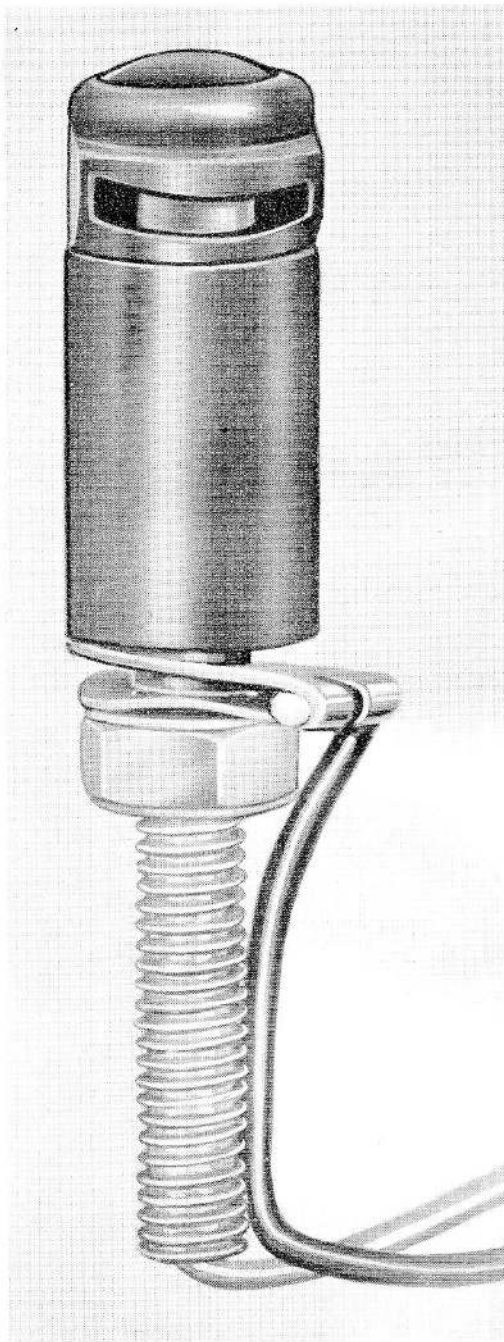
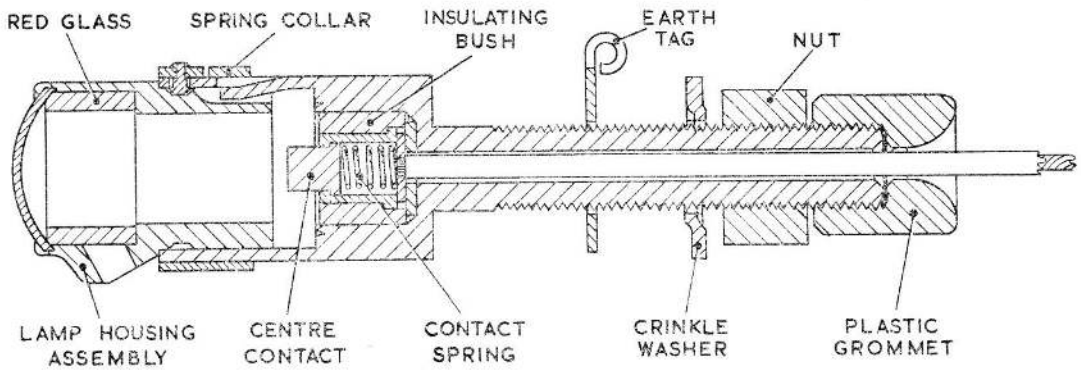

Fig. 1. Single miniature pillar lamp
Fig. 2. Sectional view
2. A general view of the lampholder is shown in fig. 1 and a sectional view in fig. 2. The lamp carrier, which is made of brass, has an angled light aperture rather similar to the slot in a pillar box, which supplies the required amount of light divergence to illuminate the respective instrument. A key way in the wall of the housing locates with a key machined into the lamp body; this ensures that the distribution of light is accurately determined.